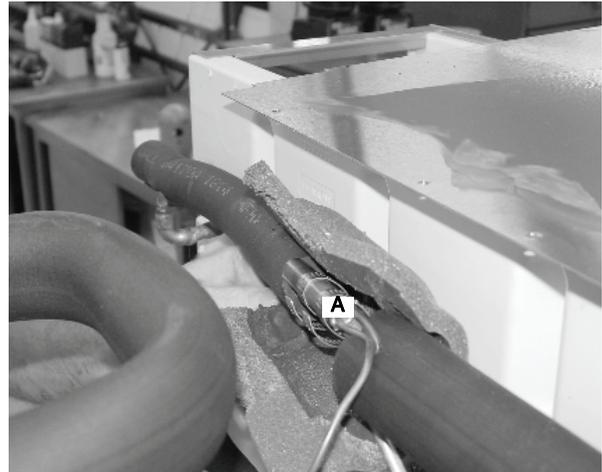

Figure 38.
45. Once the system has passed a leak test, cover the expansion valve bulbs (A) with the insulation tape kits (FIGURE 38).